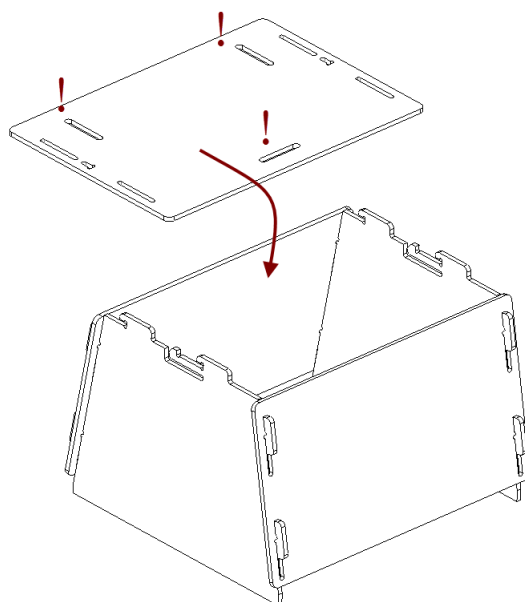

Figure 224: Mounting the cover.
3. Paying attention to orientation of the slots, install the cover using the upper hooks of the side walls (see Figure 224).